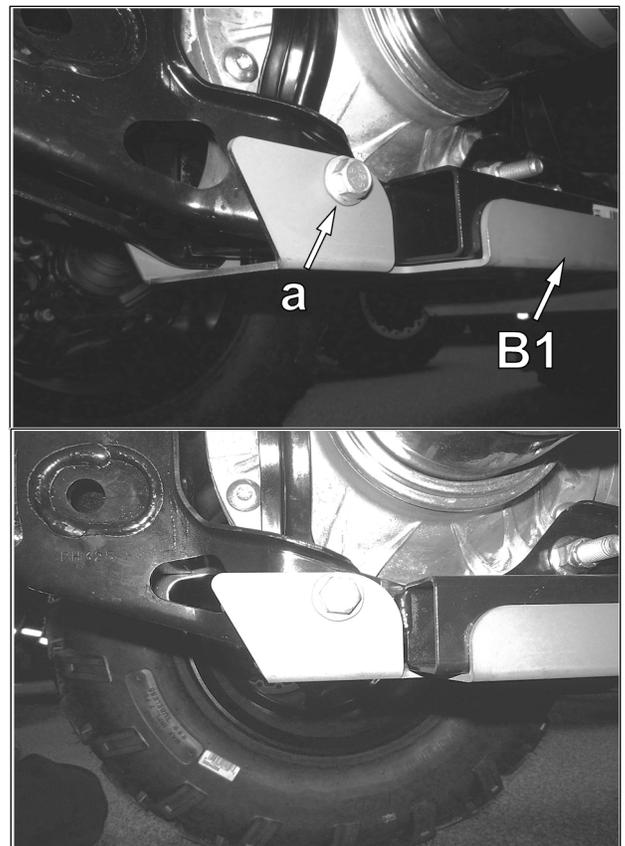

Fig. 3
4. Remove the rear differential mounting bolt. Position the rear anchor plate (8) under the vehicle. Align the holes at the end of the plate with the vehicle's rear differential mounting holes. Reinstall the rear differential mounting bolt (a) and use the new nut (B4) provided. Do not tighten the bolt completely. See Fig. 3